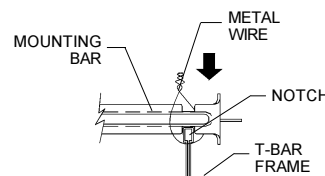

FIG.10
1. Position the notch in the mounting bar on top of the T-bar frame. (Fig.10)
2. Fasten with the metal wire or other. (Fig.10)